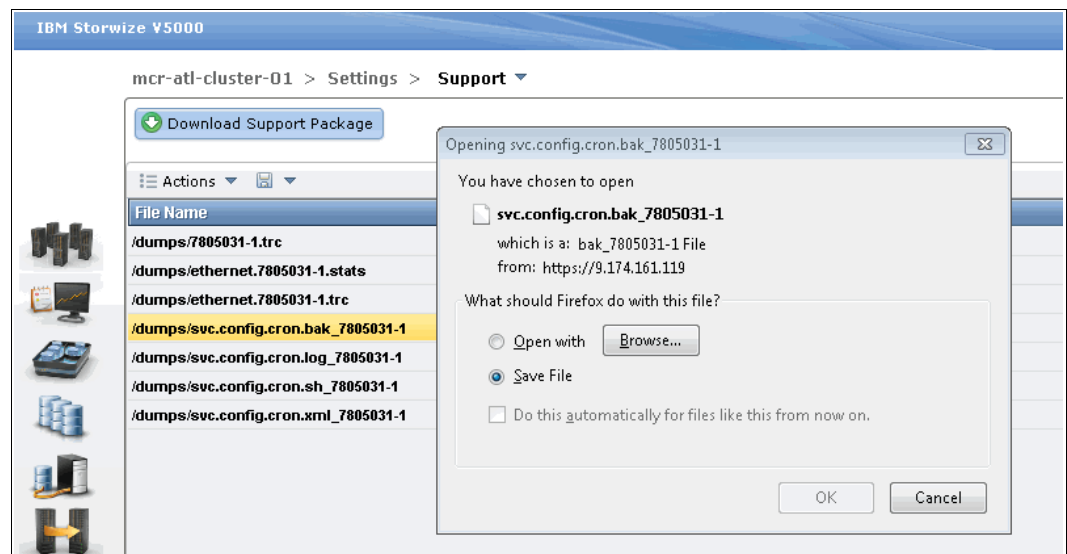

Figure 12-23 Configuration backup save file
5. Save the configuration backup file on your management workstation where it can be found easily, as shown in Figure 12-23.